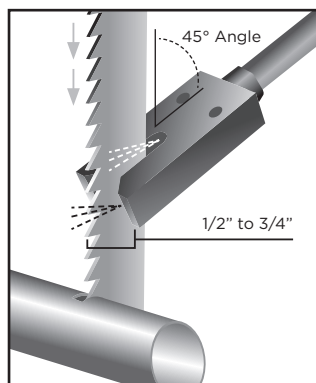

Fig. 3 - Angled View of Band Saw
2. Make sure the nozzle is 1/2" to 3/4" above the bottom of the blade; the lubricant stream should form a 45° angle with the cutting edge (**see Fig. 3**). Test the stream position with a piece of paper (see Step 2 of Operations, page 7).